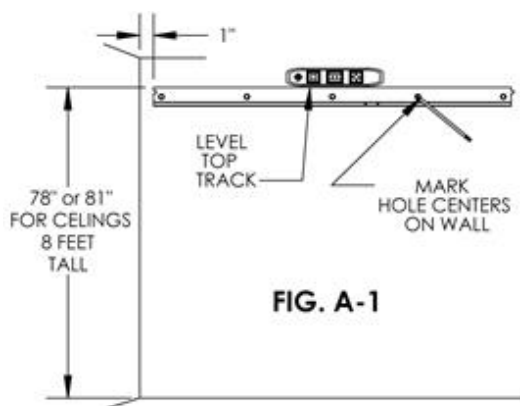

FIG. A-1
2. Determine the maximum height of storage you would like available above your flat surface. (See Fig. A-1). For an 8 foot ceiling; 78" off the floor leaves 18" of storage above and 81" leaves 15" storage above.
4. (Refer to Fig. A-1 & A-2) Using a level, align top of top track with your pencil mark in step 3. With top track level, mark the center of each holes location on your wall. (Note: Before starting to drill holes; always make sure all screw hole locations do not fall in line with electrical wires, duct work or plumbing inside of your wall. If a potential problem exists, reposition and re-mark screw hole locations.)